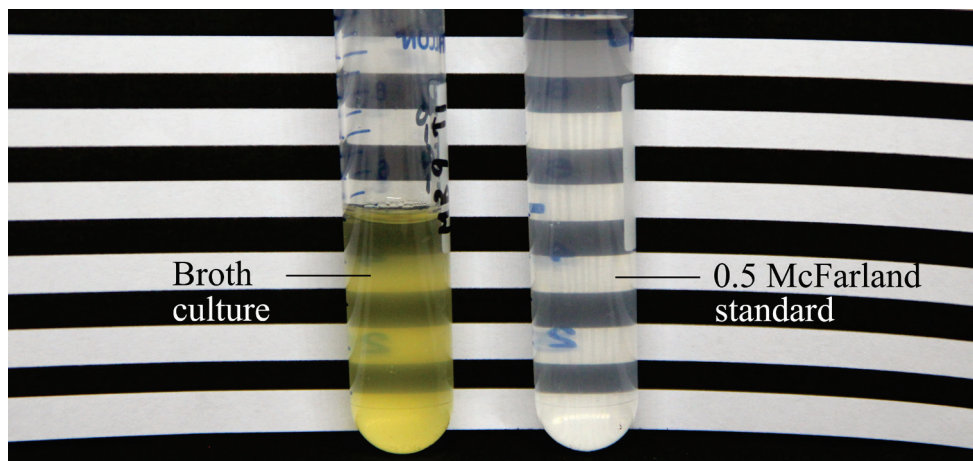

Fig. 5
1. Finger-flick or wrist-flick your microbial culture tube from Part (1) and the 0.5 McFarland turbidity standard* tube thoroughly.
2. Place the two tubes in front of the cardboard with black and white stripes (Fig. 5).